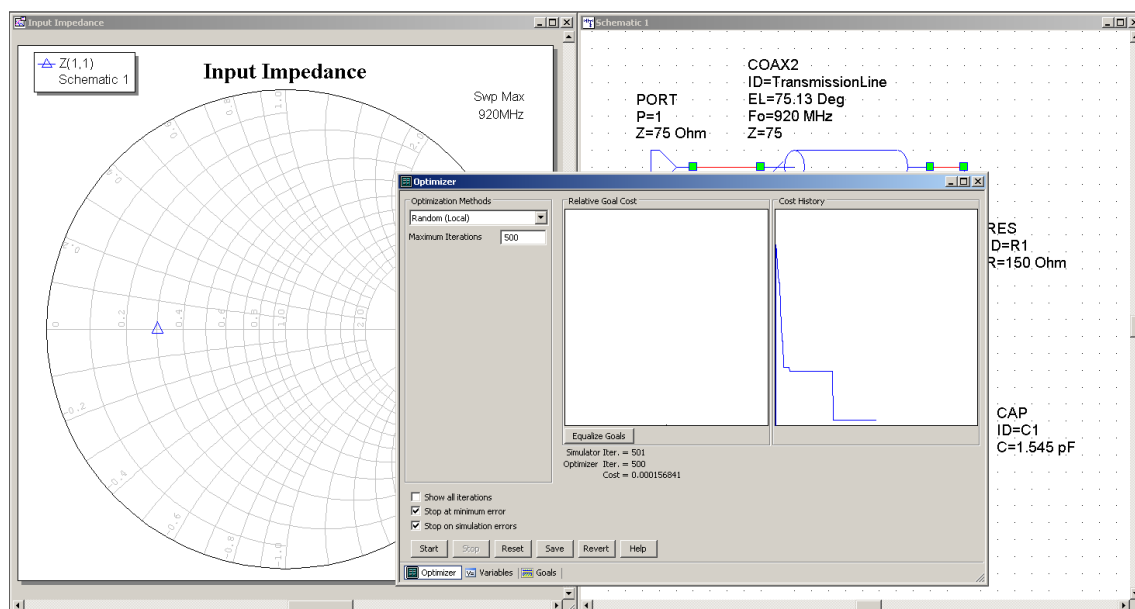

Figure 8.16: Chart 6 : Optimisation Result
- Click ‘Start’ and watch the Smith chart. The result should look similar to figure 8.16.